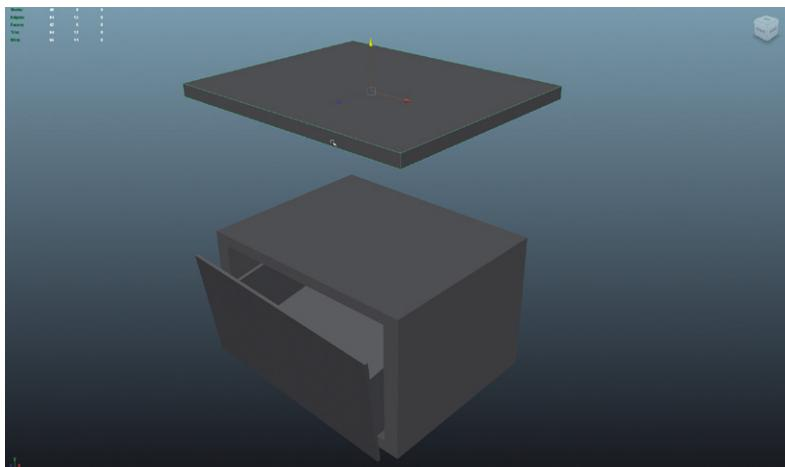

FIG 3.50 Top of small table built from rescaled cube.
Step 6: Create a cube and resize it to be slightly bigger than the drawer compartment. Make sure it is also fairly flat (Fig. 3.50).